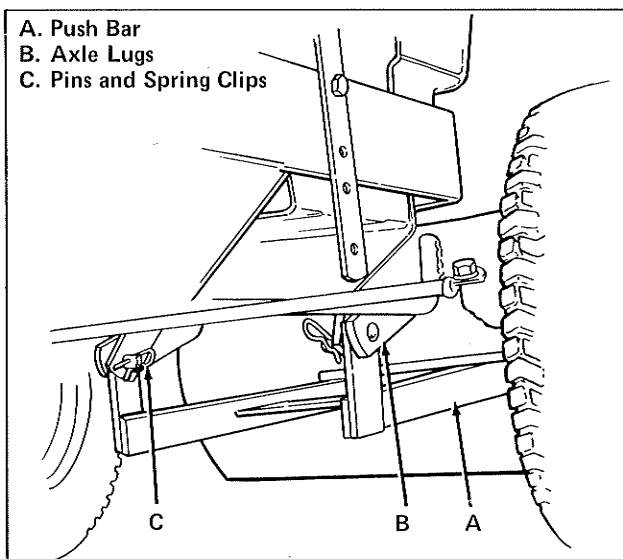

Figure 5. Installing Blade to Tractor
2. Drive tractor forward over push bar (item A, figure 5) until rear of push bar is under front axle hitch.
5. Remove spring clips and pins (item C, figure 5) and lower push bar assembly (item A) to ground. Install pins and spring clip in push bar assembly for storage.